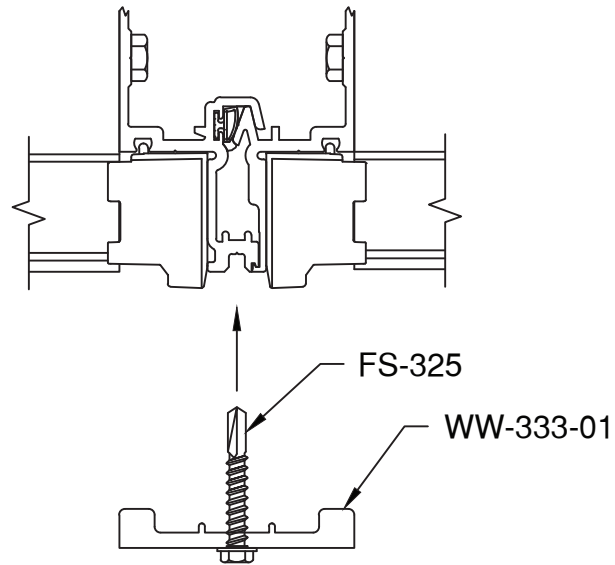

FIGURE 19
3.5 Temporarily set captured mullions together using WW-333-01 retainer. Locate at 6" from sill, mid-lite and 6" above each splice location. **SEE FIGURE 19, page 18.**